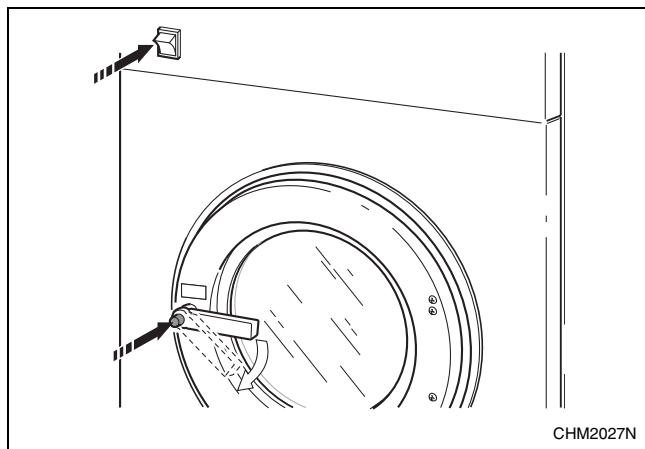

Figure 4
2. With left hand, push and hold white rocker button. Refer to *Figure 4*.
3. Push button and turn handle clockwise to open. Refer to *Figure 4*.